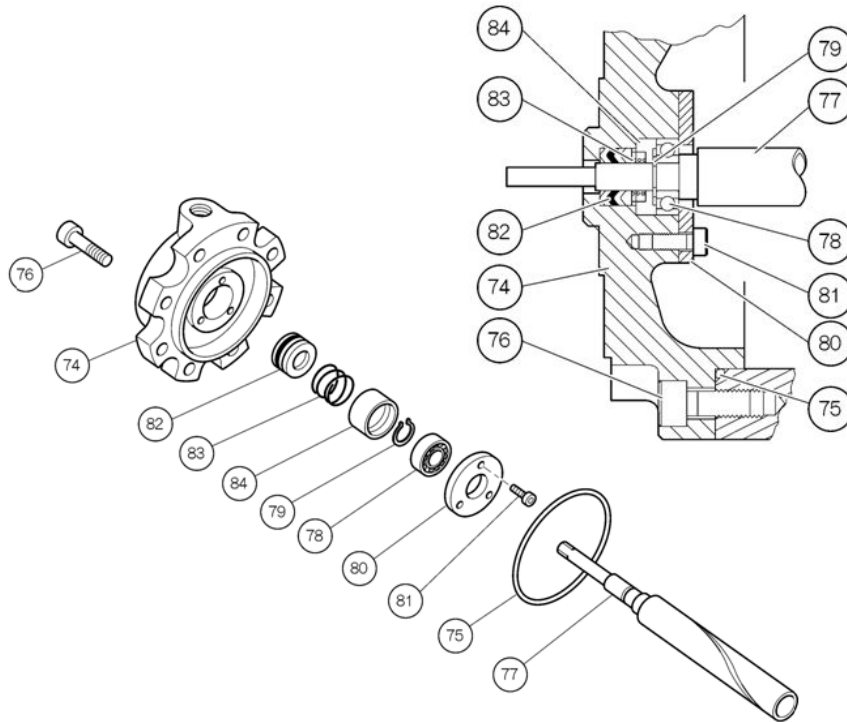

Figure 5-16 Unloader Cover Block
- c) Apply sufficient oil to the unloader cover [74], and attach the V-ring set [82]. One of the V-rings in a set is made of rubber (dark color) to improve sealing performance. As shown in Figure 5-16, it is set at the second position viewed from the outer side of the machine. Set the V-ring in such a way that its ridge faces the machine's outer side and the lip faces the inner side.